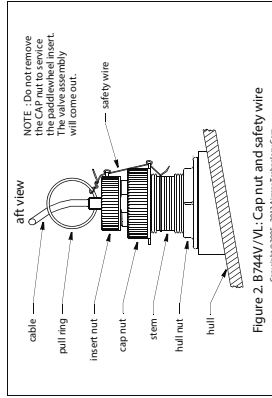

Figure 2. B744V/VL Cap nut and safety wire
Being sure the valve assembly is seated firmly within the housing, carefully screw the CAP nut in place (Figure 2). Hand-tighten only. Do not over tighten.
3. Attach the safety wire to prevent the insert from backing out in the unlikely event that the cap nut and/or insert nut fails or is screwed on incorrectly. Wrap one end of the safety wire tightly around the stem of the housing and twist it together with the long end (Figure 2). Keeping the wire taut throughout, lead the wire straight up and through one eye in the CAP nut. Thread the wire through the eye a second time. Lead the wire in a counterclockwise direction and thread it through the eye in the INSERT nut. Thread the wire through that eye a second time. Loop the wire through the pulling ring and twist the wire securely to itself.
2. Remove the paddlewheel insert from the housing by removing the safety wire from the pull ring and the INSERT nut (Figure 2). Unscrew the INSERT nut. Do not remove the CAP nut, as the valve assembly will come out.
5. Reattach the safety wire (Figure 2).
2. Remove the safety wire and unscrew the CAP nut (Figure 2). With the blanking plug ready in one hand, remove the paddlewheel insert valve assembly in the other hand by grasping the pull ring. The blanking plug will pop out. Tap the valve assembly with the blanking plug to minimize the flow of water into the boat. Temporarily secure it with the safety wire. Do not leave the boat in the water unattended. This is not a watertight or secure seal.
8. Reattach the safety wire (Figure 2).